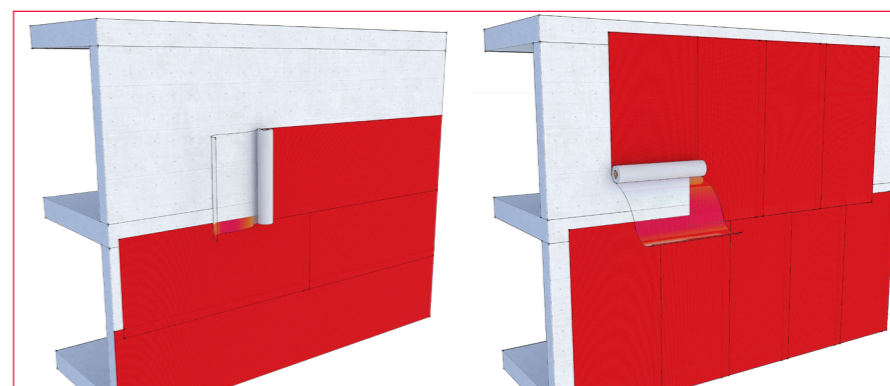

Fig.3 Horizontal and vertical installation of Wraptite membrane showing staggered overlap.
4. Starting at corner; peel back release paper by approx. 150mm. (see Fig.3)